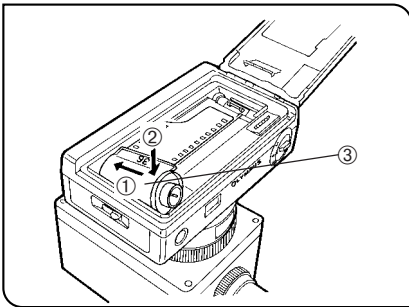

Fig. 11
2. Correctly insert the film cartridge ③ in the film chamber. (Fig. 11)
3. Adjust the length of the leading section of the film so that its end is aligned with the red film loading index ④. (The film may not wind properly if the end is not properly aligned with the index.)